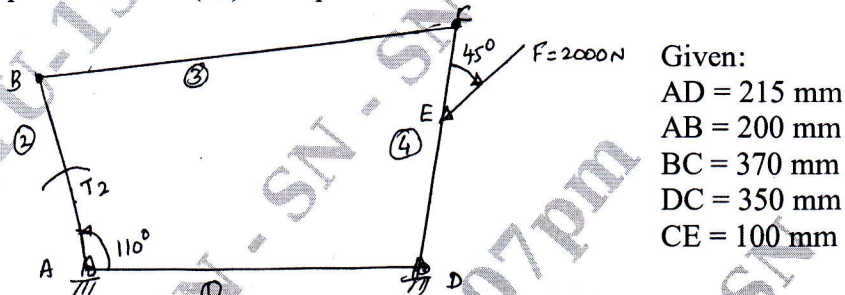

Fig.Q1(b)
- b. A four bar mechanism shown in Fig.Q1(b) is acted by a force  $F = 2000\text{ N}$ . Calculate the required torque on link AB ( $T_2$ ) for equilibrium of the mechanism.